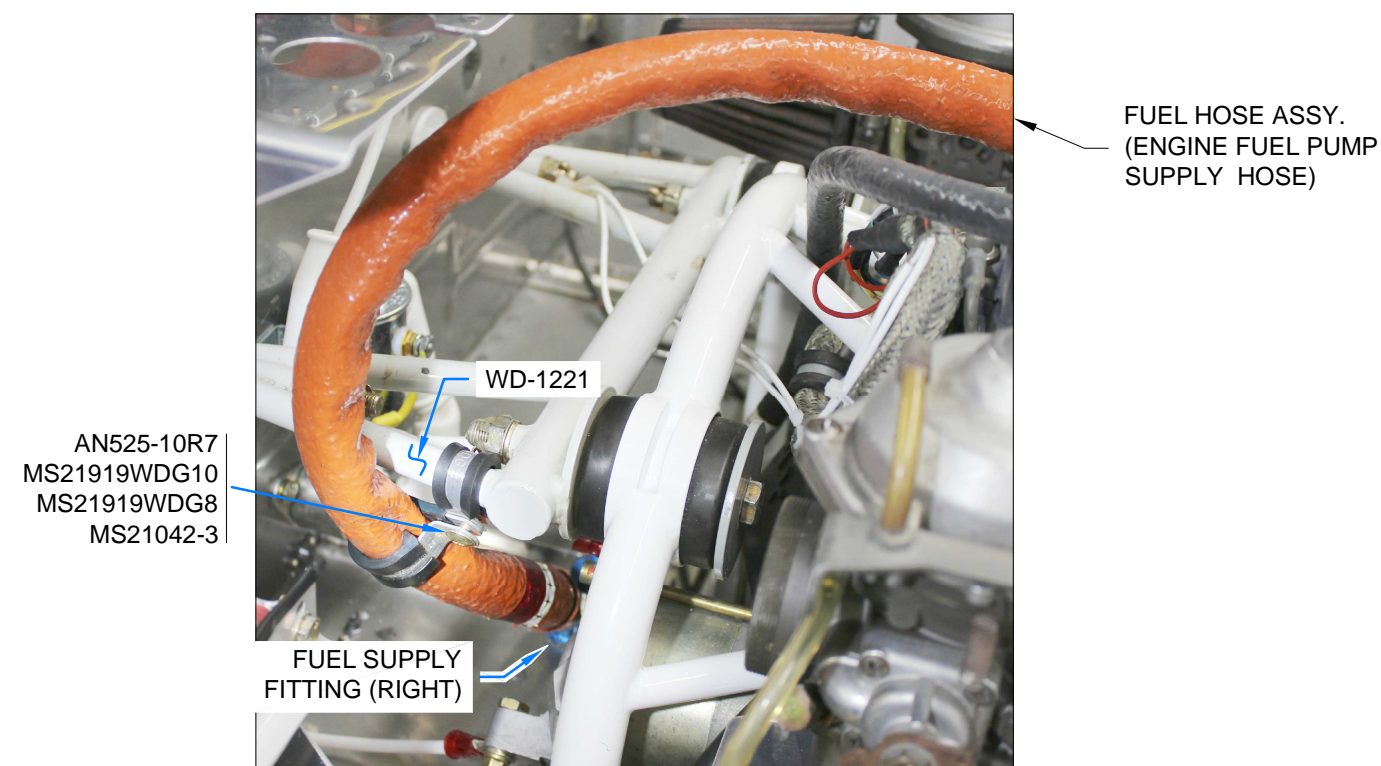

FIGURE 3: SECURE FUEL PUMP SUPPLY HOSE (OBSOLETE HOSE SHOWN)
Step 5: Fabricate the FF-01223 Drain Tube by cutting to the dimensions shown in Figure 3.